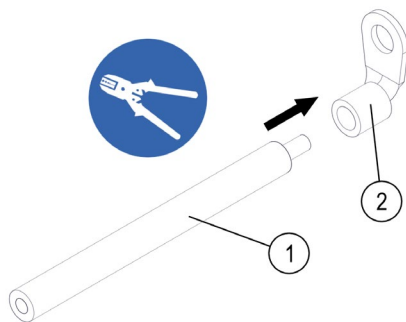

Fig. 96: equipotential bonding cable and crimping cable lug
→ Crimp the equipotential bonding cable (1) and crimping cable lug (2) together using a crimping tool (see Fig. 96).